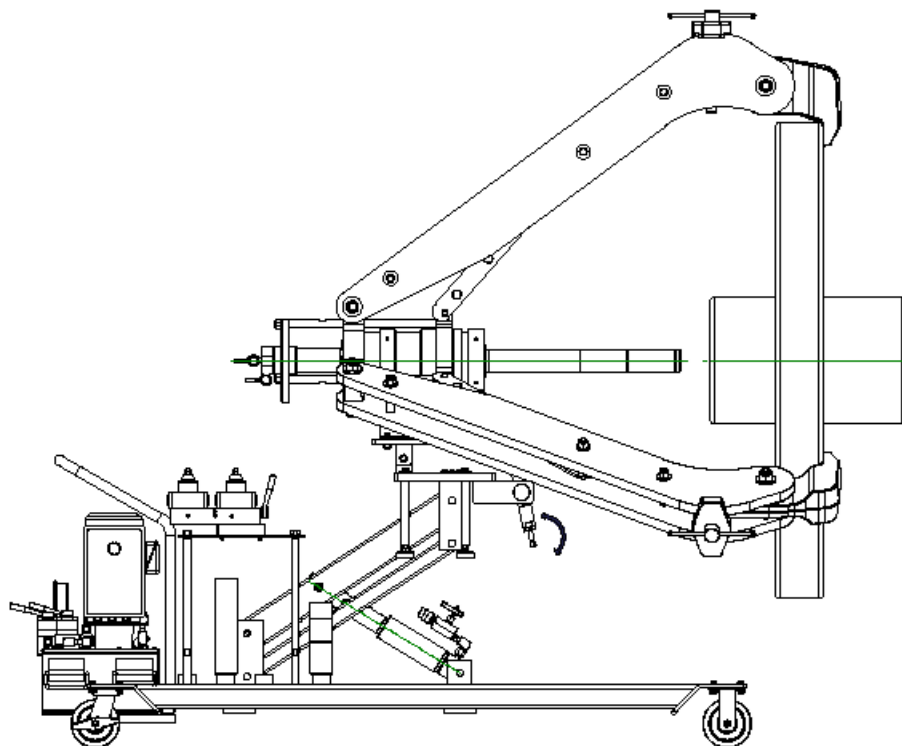

Figure 4 – Adjusting Puller Head
- 5.2.4 Rotate the round handle under the puller in a clockwise direction when angled down and in a counterclockwise direction when angled up to ensure the puller head is on the same centreline as the object to be pulled (see Figure 4).